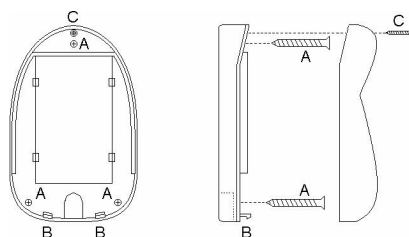

Fig. 3
- When the transmitter is aligned with the receiver (the receiver is equipped with a red internal pilot lamp that is on when both photocells are aligned) fix the back side of the box to the wall through the three A slots (fig. 3).
- Fix the cover of the box through the B tongues and the C screws (fig. 3).